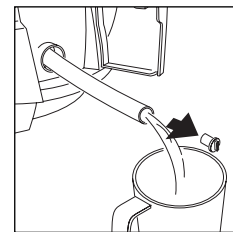

fig. 6
3. Remove the cap (fig. 6). Take care to pinch the end of the hose with two fingers so that the oil does not drain until the hose has been placed in a receptacle.
4. Drain the oil into a suitable receptacle (fig. 6)